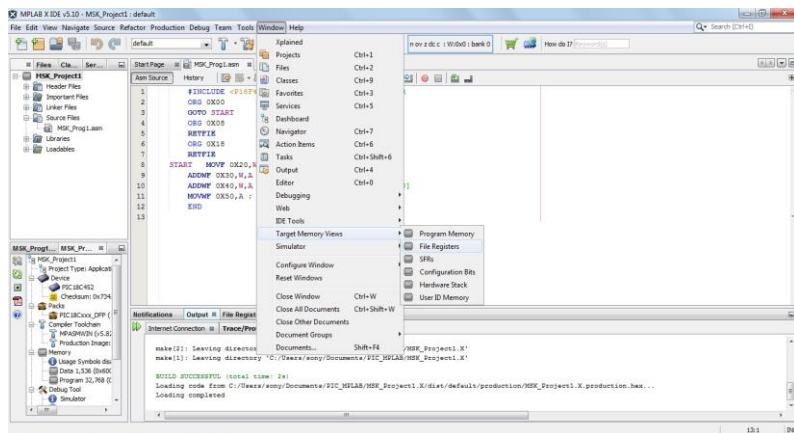

Fig 4.21 Target Memory Views
18. Under the “Window” menu select “Target Memory Views” (Fig 4.21) to see the “Program Memory”, “File Registers”, “SFRs”, “Configuration Bits”. Select File Registers to see the corresponding RAMs File Register memory locations or SFRs to see the special function registers like Status register, FSR, peripheral interrupt registers, etc. It is as shown in Fig 4.21.